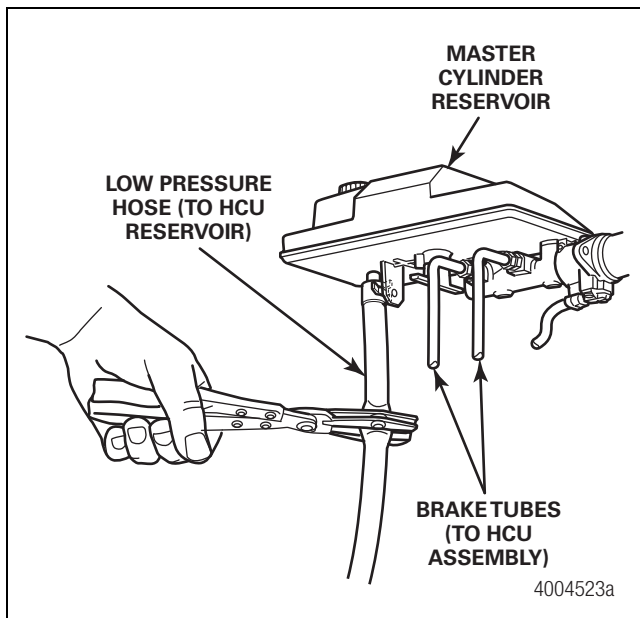

Figure 4.61
6. Attach a pinch clamp to the low pressure hose near the outlet of the master cylinder reservoir. Do not damage the reservoir outlet. Figure 4.61.